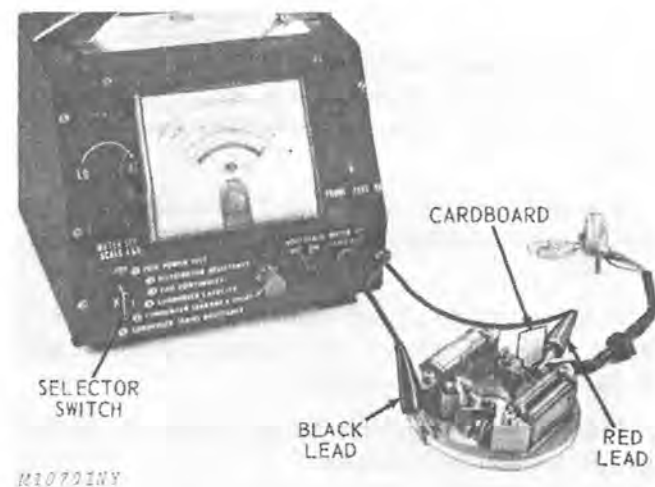

Fig. 22-Series Resistance Test
3. Needle must be within the "OK" green block on scale No. 6, Fig. 22. If not, replace condenser.